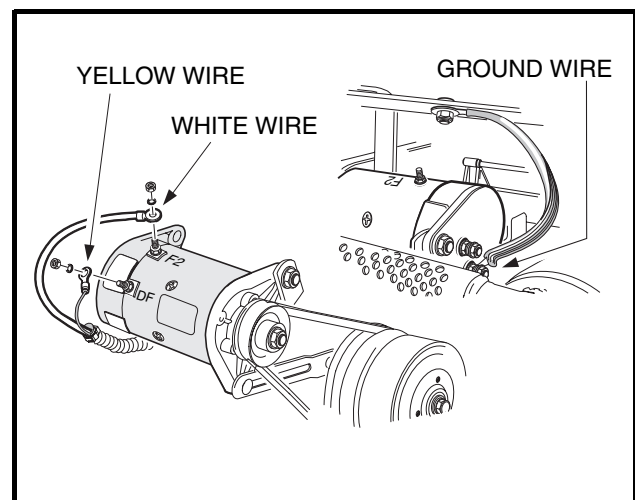

Figure 18-45 Starter/Generator
21. Connect the 6-gauge white wire to the F2 post, the 6-gauge black ground wire to the A2 post and tighten both wires to 48 in-lb (5.4 N·m). Connect the 16-gauge yellow wire to the DF post on the starter/generator and tighten to 30 in-lb (3.4 N·m) (**Figure 18-45, Page 18-16**).